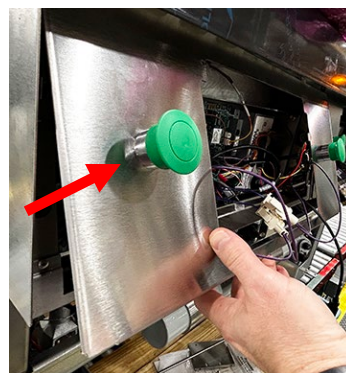

Figure 26
53. Tilt the bezel up from the bottom and lower towards the front of the fryer (see Figure 26).